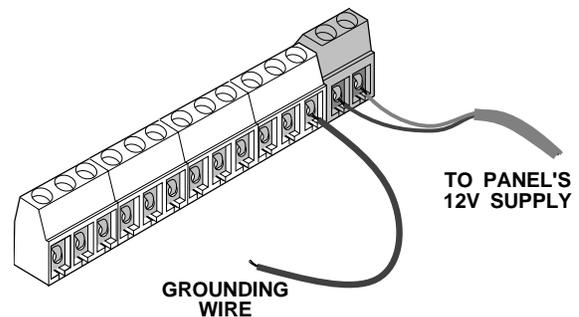

Figure 9. Installing a Grounding Wire On the Receiver
- 1) Install a grounding wire to the receiver’s GND terminal (see Figure 9).
- 1) Install a grounding wire to the receiver's GND terminal (see Figure 9).